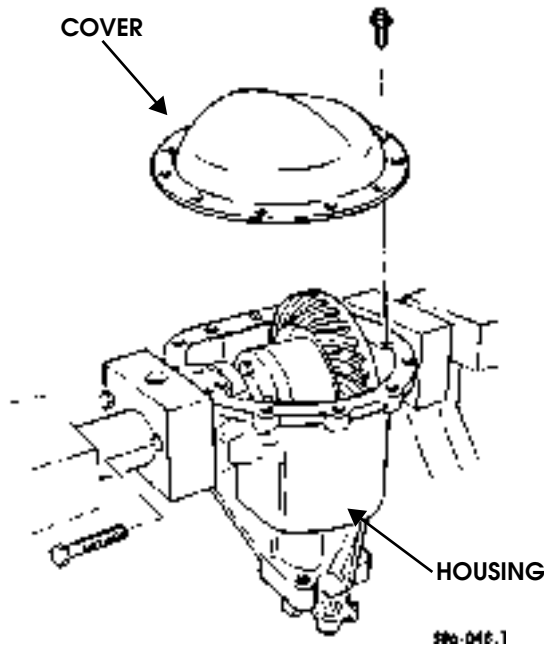

Figure 9-99: Housing Cover Installation
62. Apply silicone sealant to cover sealing surface and secure cover to housing with twelve bolts. Tighten bolts to 16 lb-ft (22 N•m) (Figure 9-99).